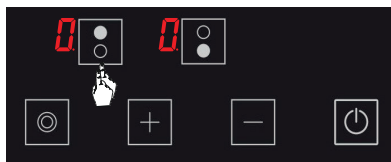

Figure 6
2. Press the relevant hob selection key. The shall be displayed in the relevant hob when you touch for the first time. (See Fig. 6)